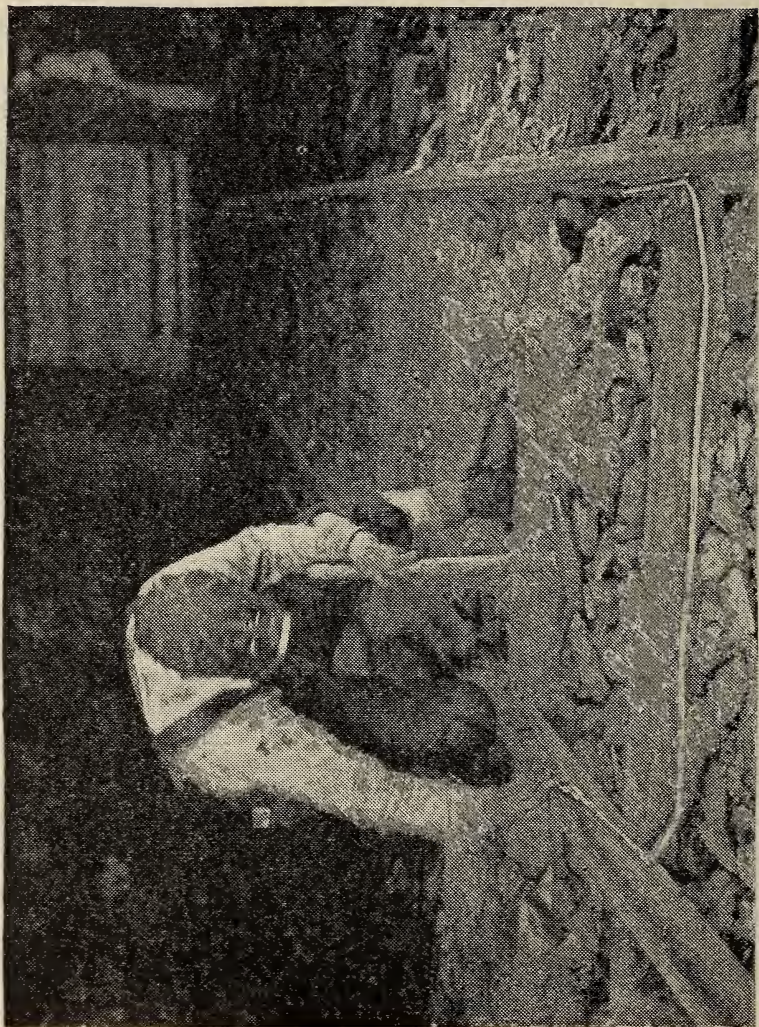

FIGURE 56.—Rails should be bonded at every joint, and crossbonds should be installed on haulage roads at intervals of not more than 200 feet.
A. By ample current-carrying capacity in the conductors, by adequate bonding, and by locating generating sets near the point of operation. (See figs. 56, 57, and 58.)